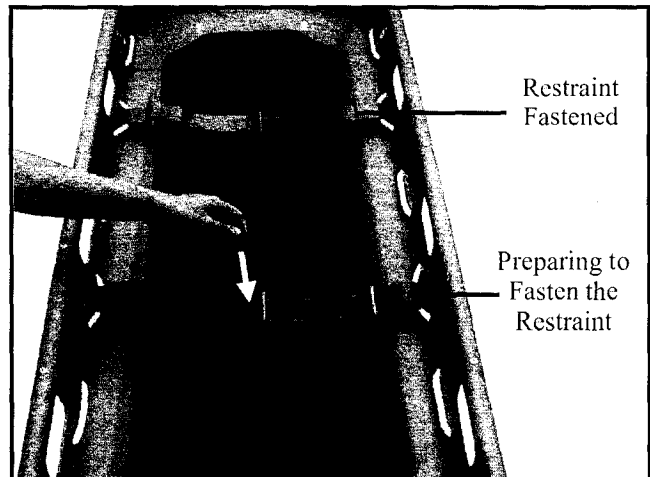

Figure 19 - Securing the Restraints
3. Fold the free end of the strap back over the buckle slide as shown in and then press it down firmly to fasten the hook-and-loop strips (Figure 19).